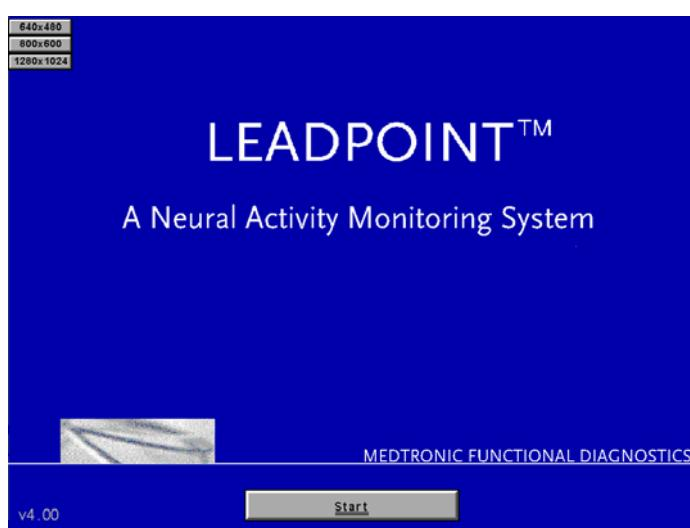

Figure 42 The Start Page of Leadpoint™
-  Double-click the Leadpoint icon on your Windows desktop. The program will perform a swift self test, before displaying the Start Page, see Figure 42 below: